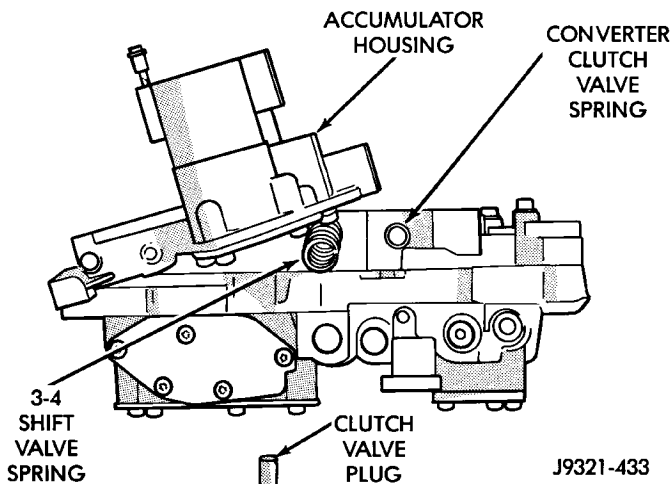

Fig. 56 3-4 Shift And Converter Clutch Valve Springs And Plug
(24) Carefully rotate 3-4 accumulator housing upward and remove 3-4 shift valve spring and converter clutch valve plug and spring (Fig. 56).